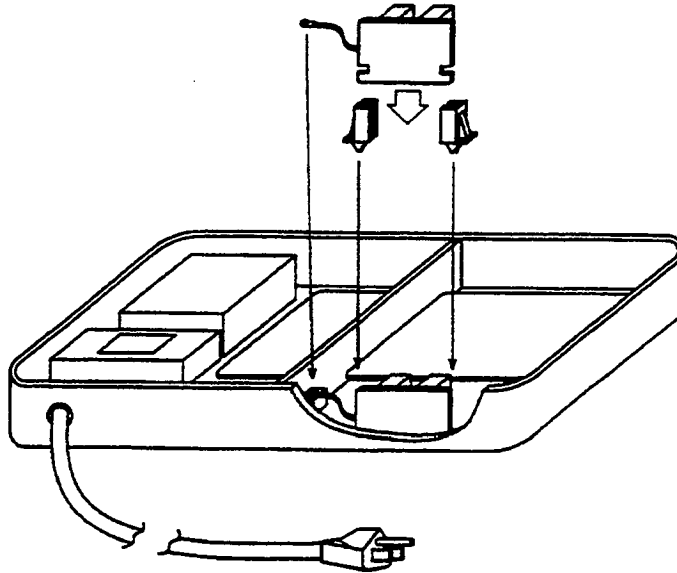

Figure 1-30 FAX-C(1)-11 KTU Installation
1. Install the stand-offs and the FAX-C(1)-11 KTU into the ESF-C-10 KSU. (Refer to Figure 1-30 - FAX-C(1)-11 KTU Installation.)